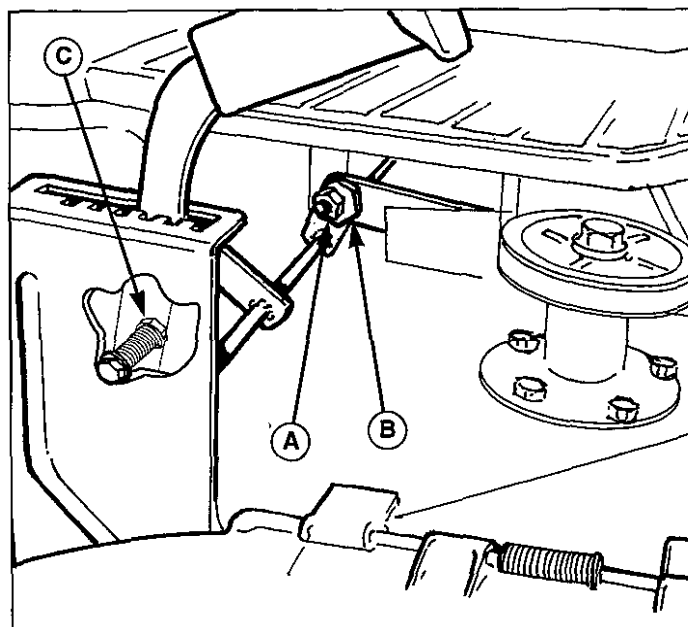

Figure 34. Front-to-Back Adjustment Nut
- See Figure 34. Loosen the outside nut (A) and turn the eccentric nut (B) to raise or lower the rear of the deck. When the mower deck is level, hold the eccentric nut while tightening the outside nut.
*NOTE: If mower handle drops out of cutting height quadrant, turn adjustment nut (C, Figure 34) clockwise to increase spring tension. DO NOT tighten nut all the way so that spring is solid.*